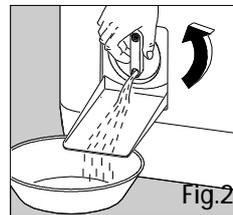

Fig.2
- b. Place a shallow receptacle with a straight edge under the chute. To finish draining, turn the drain filter plug until it is vertical to allow all remaining water to run out (fig. 2).